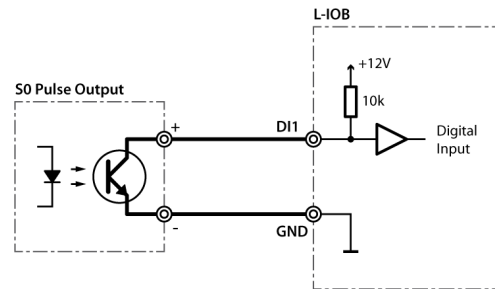

Figure 104: S0 pulse meter connected to DI
S0 pulse meters must be connected to digital inputs (DI) as shown in Figure 104.